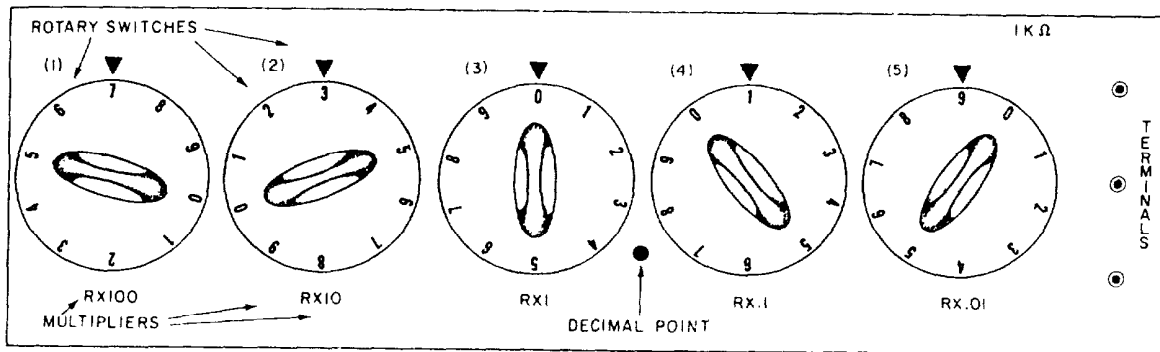

Figure 3-34.—Decade resistance box.
sometimes called a decade box. Figure 3-34 shows an example of this box. These boxes, generally oblong in shape, contain variable resistors. On top of the boxes you will see either four, five, or six rotary switches, depending on the type of box used. Each switch will have the numbers 0 through 9 on it. Below each switch you will see a number known as the multiplier. Three terminals are on the right-hand side of the box to connect it with the circuit(s). Some of the boxes may also have a decimal point, such as between switches (3) and (4) in figure 3-34.
Each rotary switch on the box controls its own variable resistor. These resistors are arranged so that each resistor's value can be collectively added to each other. Using the figure and reading the switches from left to right, (1) is in the hundreds place, (2) is tens, (3) is ones, (4) is tenths, and (5) is hundredths. To determine the value of a resistor, such as (2) in the figure, read the dial setting, which is 3, and its multiplier, which is  $RX10$ . This becomes  $3R \times 10$  or 30 ohms  $\times 10$ . Therefore, the value of resistor (2) is 30 ohms at this setting. Calculate all of the other resistors in the same manner. Then add the values of each resistor together to get the total resistance of the box. What is the total resistance of the box in figure 3-34? If you figured it out correctly, it would be 730.19 ohms.